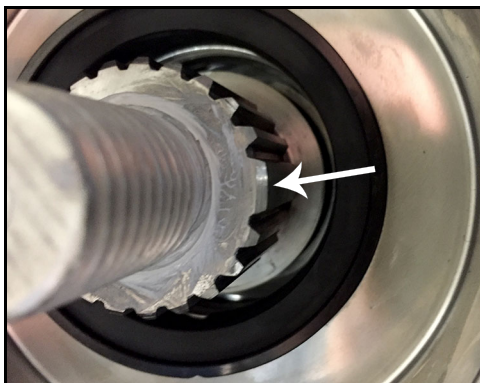

Figure 179 - Timing spline of shaft
2. Figure 179 shows the timing spline of the shaft.